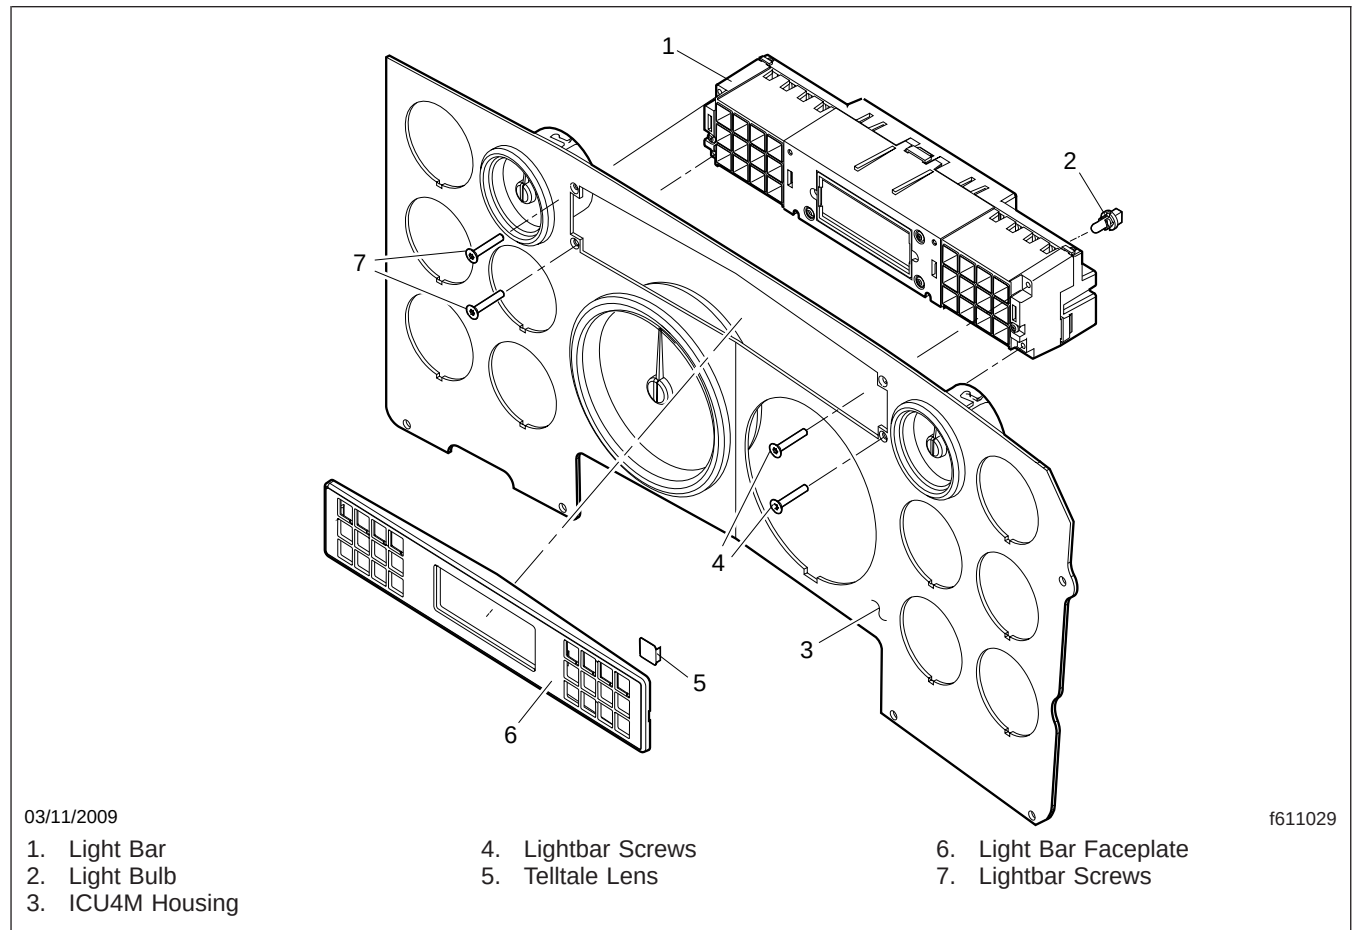

Fig. 1, ICU4M Dash Panel Installation
1. Remove the fasteners that secure the ICU4M housing to the dash. Fasteners used on the ICU4M are T-25 Torx screws. See Fig. 1.
6. When all fasteners and connections between the ICU housing and the dash have been disconnected, remove the old ICU from the dash. See Fig. 1.